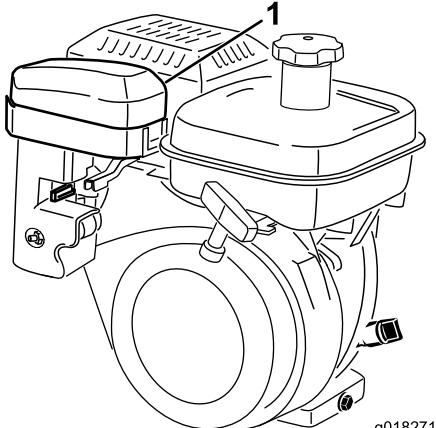
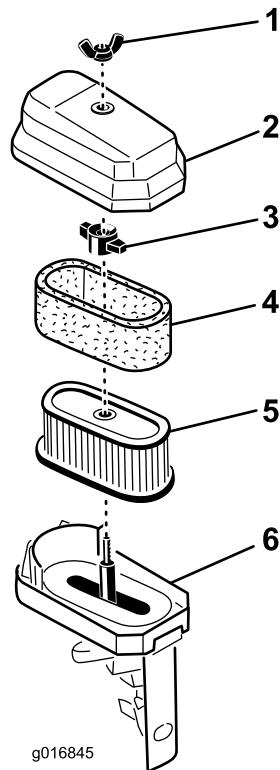

Figure 33
Figure 34
2. Remove the wing nut securing the air cleaner cover to the air cleaner and remove the cover. Clean the cover thoroughly (Figure 33 and Figure 34).
3. If the foam element is dirty, remove it from the paper element (Figure 34). Clean it thoroughly.